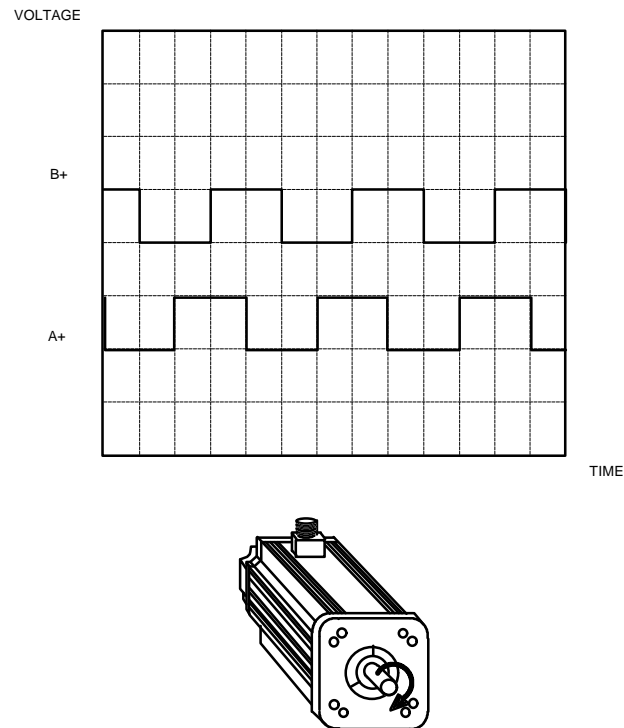

Fig. 2-2: Mx4 Octavia Incremental Encoder Signals Polarity ... Clockwise Shaft Rotation Yields Negative Velocity
2. The incremental encoder signals (A+, A-, B+, B-) should follow the convention of Fig. 2-2. That is, when the motor shaft is manually turned in the clockwise direction, a negative velocity should result.